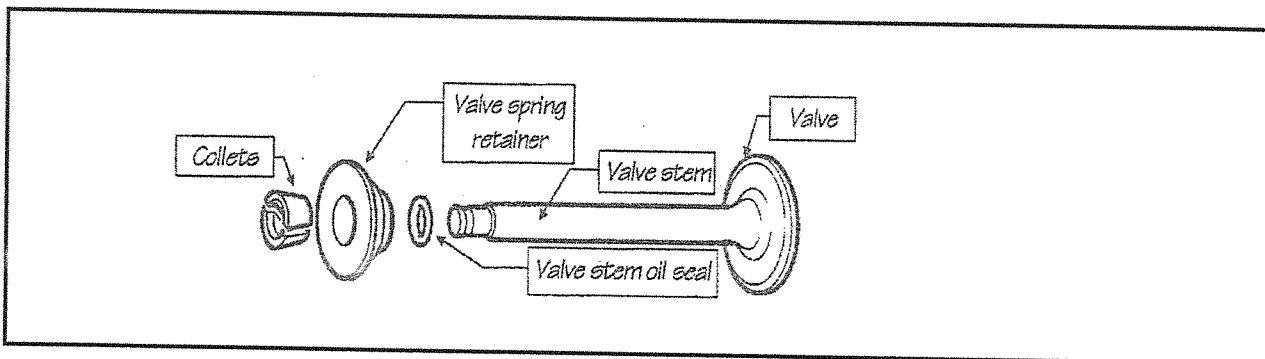

FIGURE 2
3.1 FIGURE 2 (valve structure)